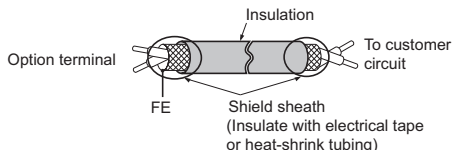

Figure 23 Prepare Ends of Shielded Cable
6. Prepare and connect the wire ends as shown in Figure 23 and Figure 24. Refer to Wire Gauges and Tightening Torques on page 36 to confirm that the proper tightening torque is applied to each terminal. Take particular precaution to ensure that each wire is properly connected and wire insulation is not accidentally pinched into electrical terminals.